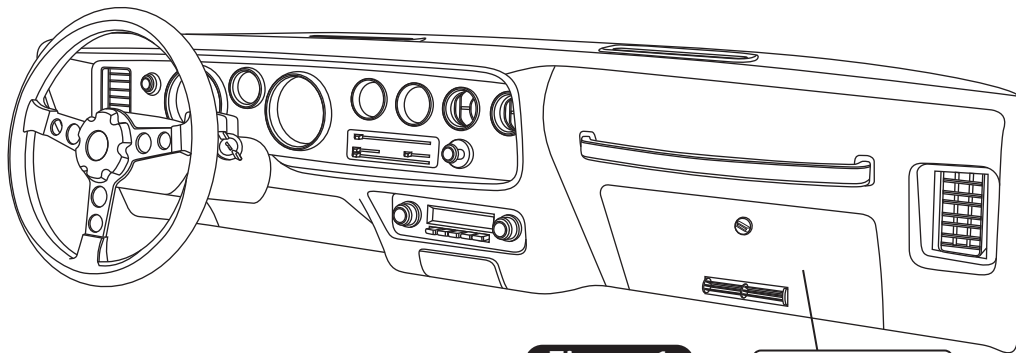

Figure 1
2. Remove the glove box door (retain) (See Figure 1, below).
3. Remove the glove box (discard) (See Figure 1, below).